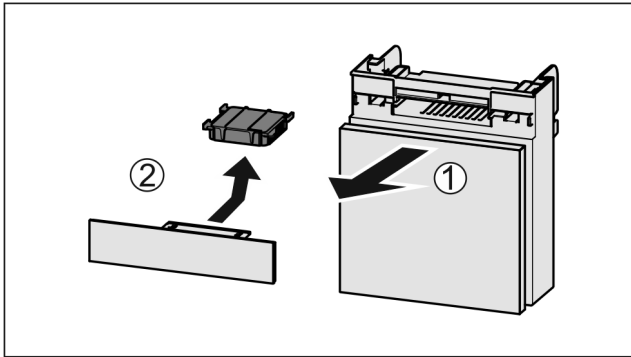

Fig. 66
- Pull out the compartment Fig. 66 (1).
- Remove the carbon filter Fig. 66 (2).